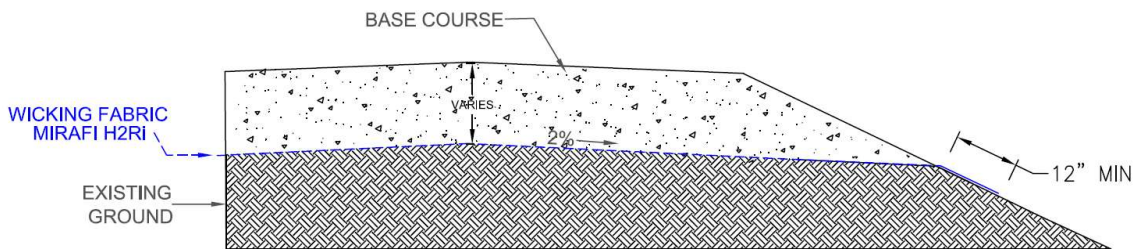

Figure 5 - Detail for Edge Termination into Ditch
3. Daylighting - This approach has been shown to be the best for maximum water removal from a cross section. Evaporation at the exterior drives water movement outward from the interior. A directional gradient should be incorporated with this approach in combination with a minimum 12" (300 mm) draped exposure of Mirafi® H₂Ri at the exterior, as shown in Figure 5.